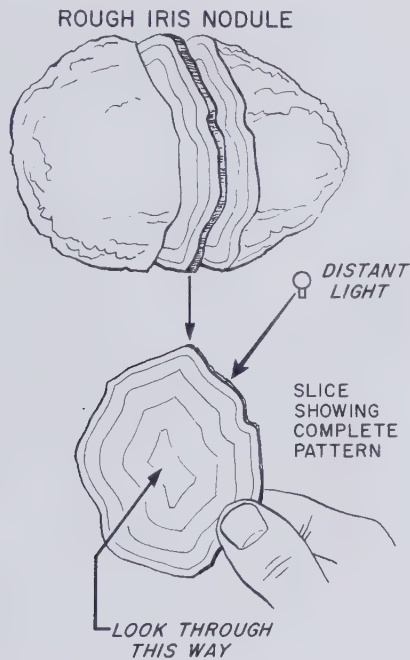

Fig. 79 Orientation of iris agate to show best iris effect. The most colorful slices are taken out of the center of the nodules.
**Iris Agate.** Agate is composed of extremely fine crystals of quartz built up in successive layers during growth. If these layers are numerous enough, a thin section sliced through them may show a rainbow display of colors when held at arm's length before a strong point of light. Iris agate, as it is called, is quite rare; however, any agate deposit yielding highly translucent material may also produce iris. The presence of iris cannot be told by appearance alone; a thin slice must be taken off, wetted with oil, and tested in front of the light. In cutting iris agate, slices should be as thin as possible for best color and taken from the center of nodules. Orientation is important, otherwise the effect will not appear unless slabs are tilted. Figure 79 shows how an iris agate nodule must be cut for best results. The saw must cut through the bands in the agate at right angles.